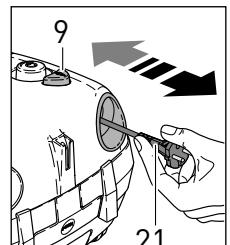
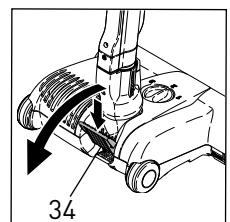
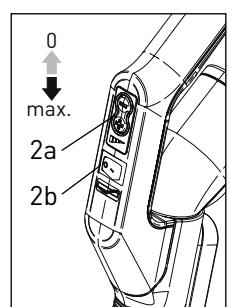

Figure 1
Figure 3 - E3
Figure 4 - E3
E3 Premium Users - Figures 1, 2, 3 & 4
1. With the canister main power knob (10) in the OFF position, and the suction-control slider on the handle (#2a, figure 4) in the OFF position, pull the power cord out from the base of the canister (figure 1). The power cord should be unwound from the cable reel at least two thirds of its length. **Note:** do not over-extend the cord.
3. Press the main power knob (10) on the base of the canister gently with your foot or hand. A blue light will illuminate indicating that the power is on.
4. Slide the suction-control slider (#2a, figure 4) toward the MAX position. It will move freely between 0 suction and MAX suction. Set the slider to the suction desired.
5. When the power head is on with the handle in the upright locked position, the brush roller will not spin. To release the ET-1 power head from the upright locked position, press down on the foot pedal, (#34, figure 3), lower the handle into the normal operating position and push the brush roller switch on the handle (#2b, figure 4) to engage the brush roller. The green light on the power head will illuminate. The handle can be lowered to a horizontal position useful for vacuuming under beds.
E1 Kombi and E2 Turbo Users - Figures 1 & 2
1. With the canister main power knob (10) in the OFF position, pull the power cord out from the base of the canister (figure 1). The power cord should be unwound from the cable reel at least two-thirds of its length. **Note:** do not over-extend the cord.
3. Press the main power knob (10) on the base of the canister gently with your foot or hand.
E3 Premium Users - Figure 4